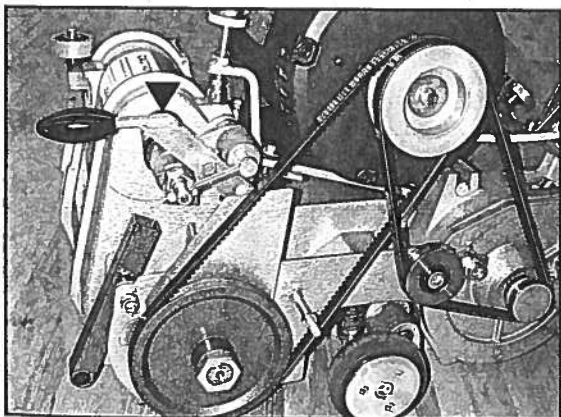

Fig. 09 Tension arm release lever (▼)
5. Press the tension arm release lever forward until it locks. See Fig. 09. Open access door to sanding chamber.